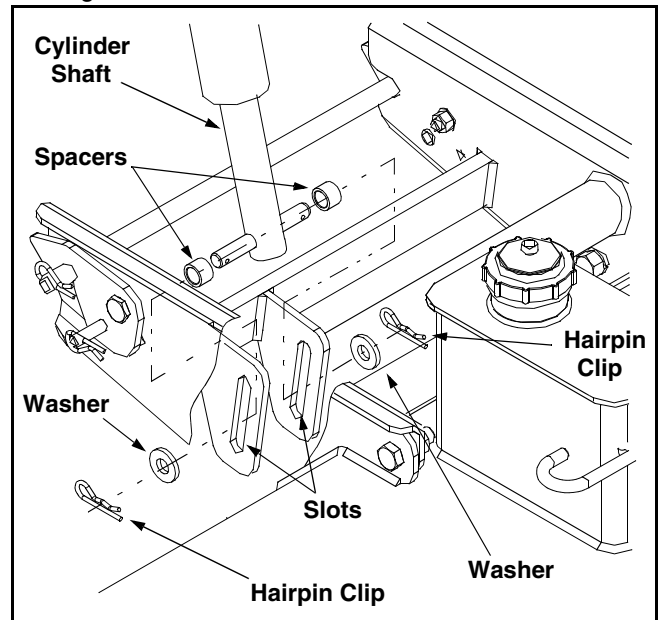

Figure 12
- Insert the lower cylinder support rod through the two spacers removed earlier, the sleeve hitch cylinder shaft and both slots found in the tiller assembly as illustrated in Figure 12.
- Secure the lower cylinder support rod in place with the washers and hairpin clips removed earlier. See Figure 12.